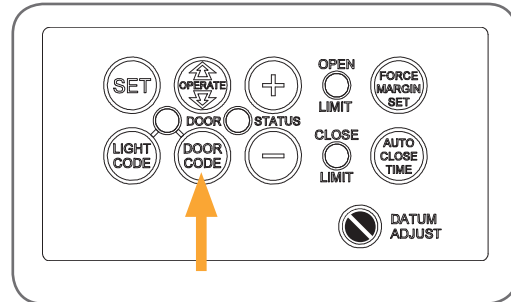

fig 28
- Press and hold the DOOR CODE button (Fig. 28).